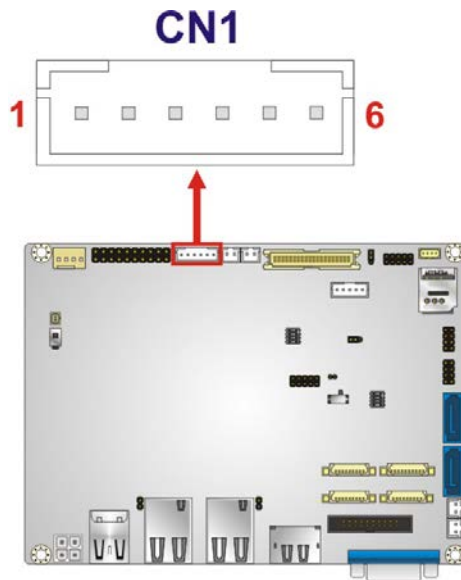

Figure 3-14: Power and HDD LED Connector Location
- CN Location:** See **Figure 3-14**